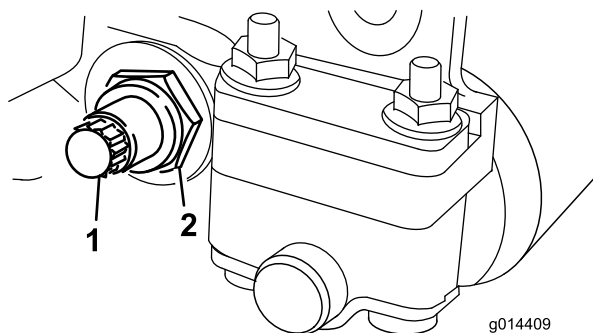
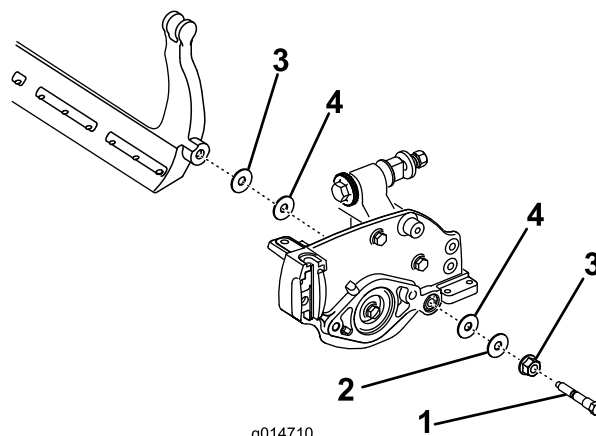

Figure 20
Figure 21
3. On each side of the machine, loosen the lock nut securing the bedbar bolt (Figure 20).
4. Remove each bedbar bolt allowing the bedbar to be pulled downward and removed from the machine bolt (Figure 20). Account for the two nylon and one stamped steel washers on each end of the bedbar (Figure 21).
2. Secure the bedbar to each side plate with the bedbar bolts (nuts on bolts) and 6 washers. A nylon washer is to be positioned on each side of the side plate boss. Place a steel washer outside each of the nylon washers (Figure 21). Torque the bedbar bolts to 240-320 in.-lb. Tighten the locknuts until the outside steel washer stops rotating and the end play is removed but do not overtighten or deflect the side plates. The washers on the inside may have a gap.